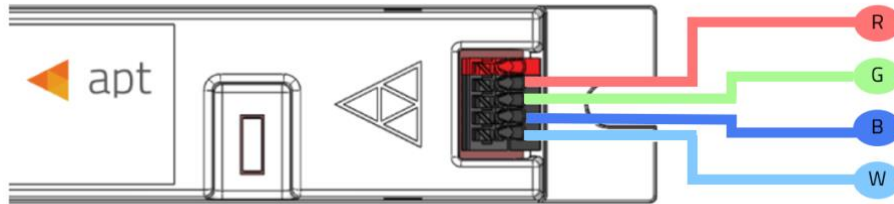

Figure 3 - Wiring APT-CV4-VA-CVO to RGBW LED module
2. Changing the DMX Address Assignment does not change the physical wiring of the controller to the LED module. Please refer to Figure 3 for warm white/cool white wiring application.